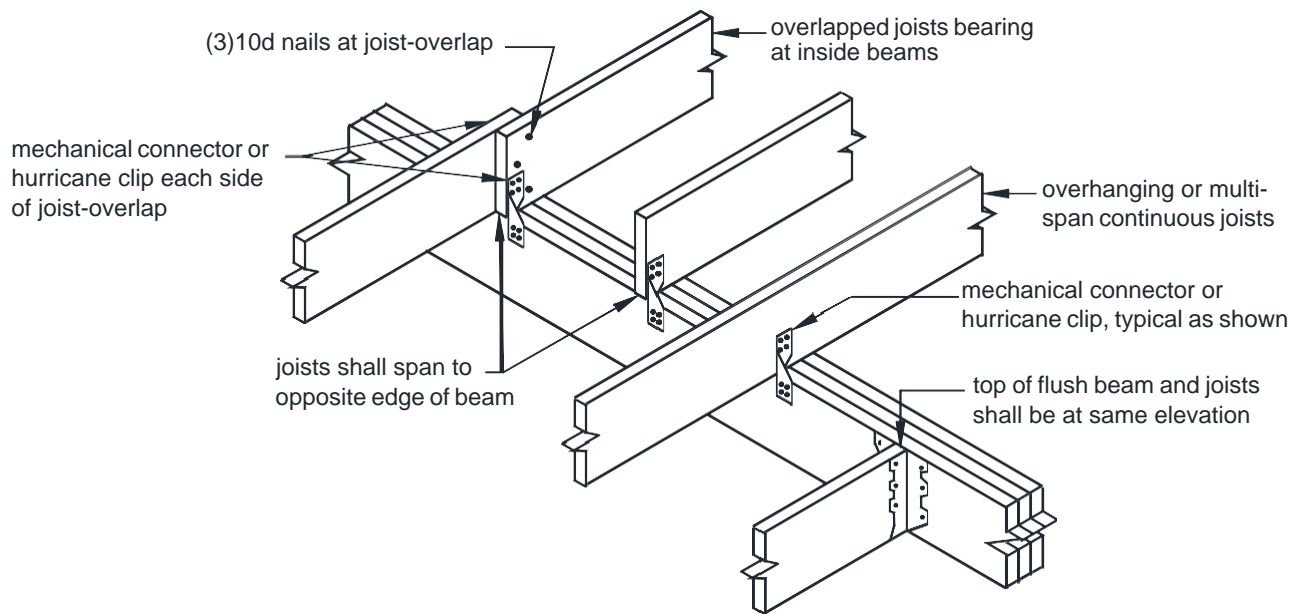

FIGURE 10: JOIST-TO-BEAM CONNECTION
- Each joist shall be attached to the beam in accordance with FIGURE 10.
- As shown in FIGURE 10, multi-span joists are permitted to span continuously over a dropped interior